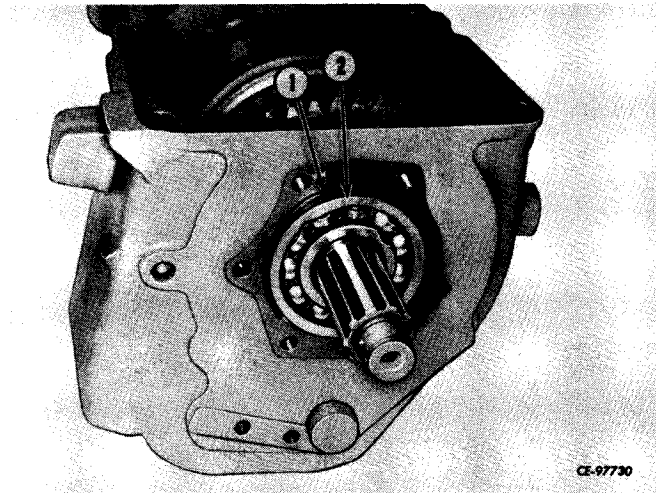

Figure 4-60
Install snap ring (1, Fig. 4-60) in bearing (2) and continue to press bearing tight.